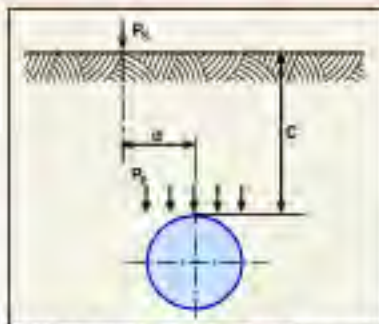

FIGURE 2. Surface live loads transmitted pressure on pipe
**Live loads.** In addition to supporting dead loads imposed by earth cover, buried pipes can also be exposed to superimposed concentrated or distributed live loads (Figure 2). The main source of design live loads on buried pipes is wheeled traffic from highways, trucks, railroad locomotives and aircraft. Live loads transmitted to the pipe can be estimated based on Boussinesq's equation [1] as follows: